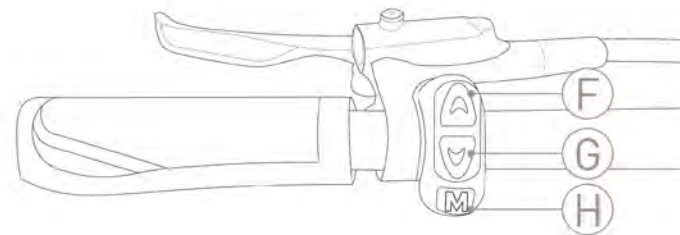

FIG. 5
To activate the walk assistance function, press and hold the "DOWN" button (Ref. G in Figure 5). The engine will activate, and the appropriate warning will be displayed on the display. The engine will shut down in the following cases:
- Release of the "DOWN" button (Ref. G in Figure 5)
By simultaneously pressing the "UP"+"DOWN" buttons (Ref. F - G - Figure 5) for two seconds you can open the menu screen. From any screen, by holding down the "POWER" button for 2", you can return to the last home screen displayed. Once inside you can move in the menu with the "UP" and "DOWN" buttons and press "POWER" as send.
Before pressing the F and G keys at the same time (Figure 5) position yourself firmly on the bike and apply the brake, so as not to unintentionally operate the departure from a standstill.